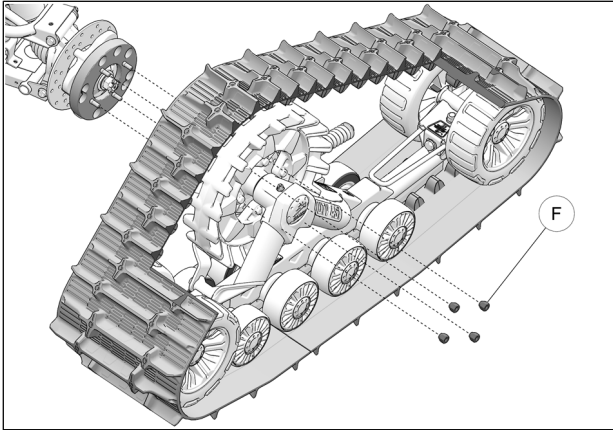

Fig. 11
10. Secure the undercarriage to the rear wheel spacer using the provided M10 lug nuts (F). See Fig. 11